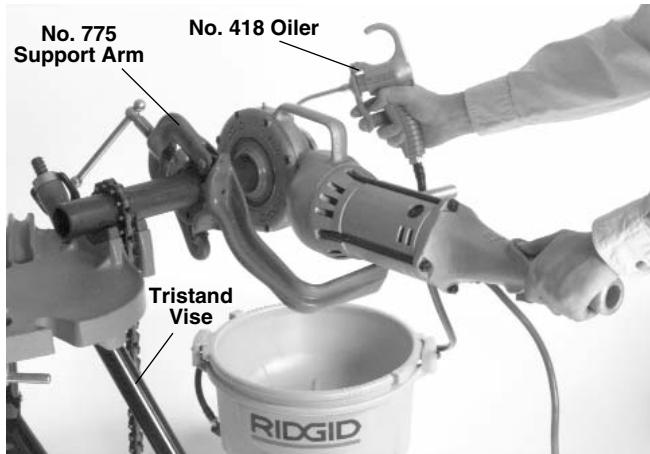

Figure 4 – Threading 2" Pipe With Power Drive Positioned On Left Side Of Vise
3. Be sure the 418 Oiler is properly filled with RIDGID Thread Cutting Oil. Position the oiler in front of the vise (*Figure 4*).
4. Position No. 775 Support Arm on pipe so end of tang is in line with end of the pipe (*Figures 4 & 5*). Make sure jaws squarely contact pipe and tighten handle firmly to prevent the slipping of the jaws.
WARNING To avoid serious injury, make sure Power Drive is correctly positioned on support arm (*Figures 4, 5 & 6*). For right hand threads, Die Head will rotate clockwise (looking at the face of the Die Head). Forces developed by the threading torque will be in the opposite or counter-clockwise direction.